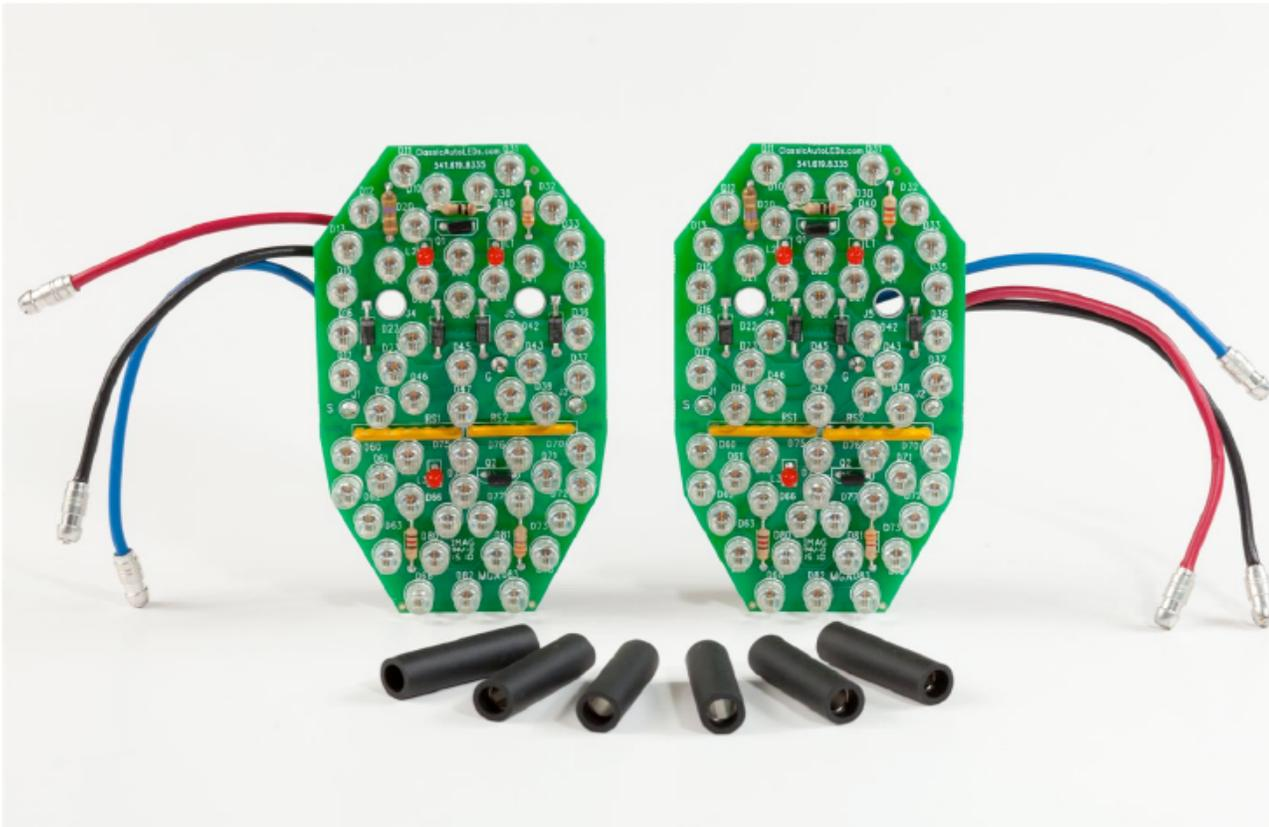

Fig. 1
- 7) Drill out the two rivets securing the bulb holder to the chrome base plate (Fig.1). Remove the bulb holder. Save the bulb holder if you want to restore the tail light to its original state. The circuit board has two holes that line up with the rivet holes. We do not recommend using these holes to mount the circuit boards due to the screw heads possibly causing a short circuit on the boards. The circuit board sits on top of the lens gasket and is held in place by the lens.